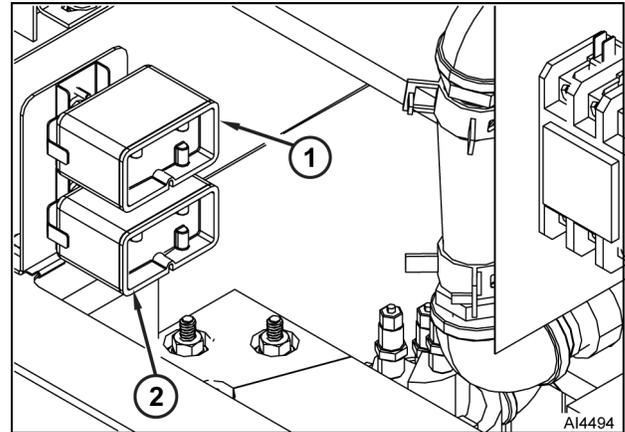

Fig. 41
- Disconnect electrical wiring from high-limit thermostat (1 or 2, Fig. 41).